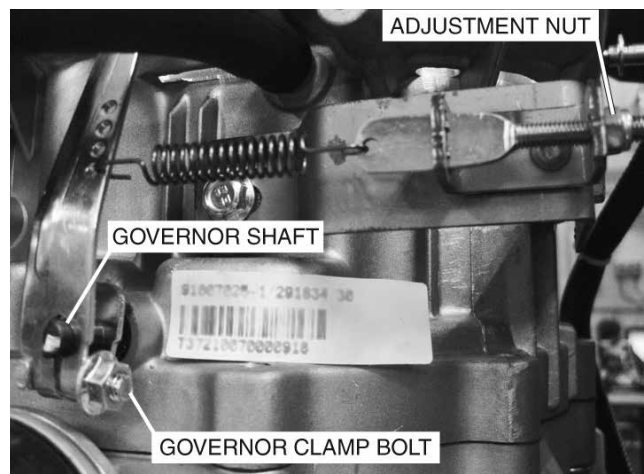

Figure 27. CorePower Engine Governor Adjustment Points
- Loosen the governor clamp bolt (13 mm). See Figure 27.